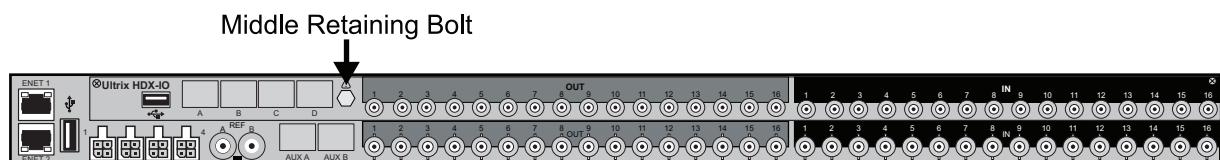

Figure 4 Ultrix Rear Panel — Location of Middle Retaining Bolt on the Blade
4. From the Ultrix rear panel, unfasten the Middle Retaining Bolt. Note that this bolt is not removable but it does extract the blade. Refer to **Figure 4** for the bolt location on the rear panel.